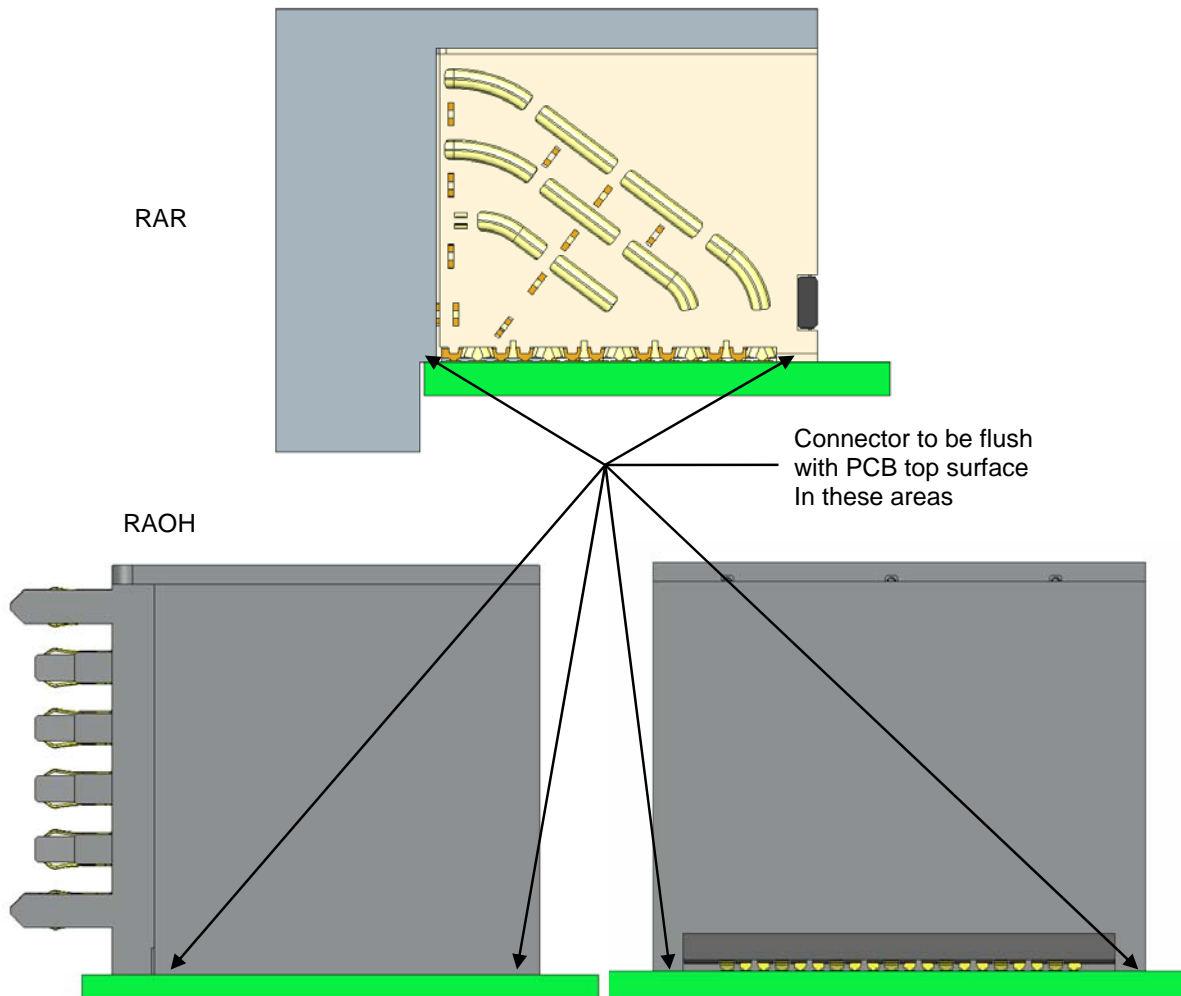

Figure 41: Proper Seating after Board Application
- Visually check that the standoffs on the bottom of each assembly are seated flush and parallel with the PCB surface (see Figure 41). Once fully seated, there may be some minor gaps (<0.1 mm) due to component tolerances.